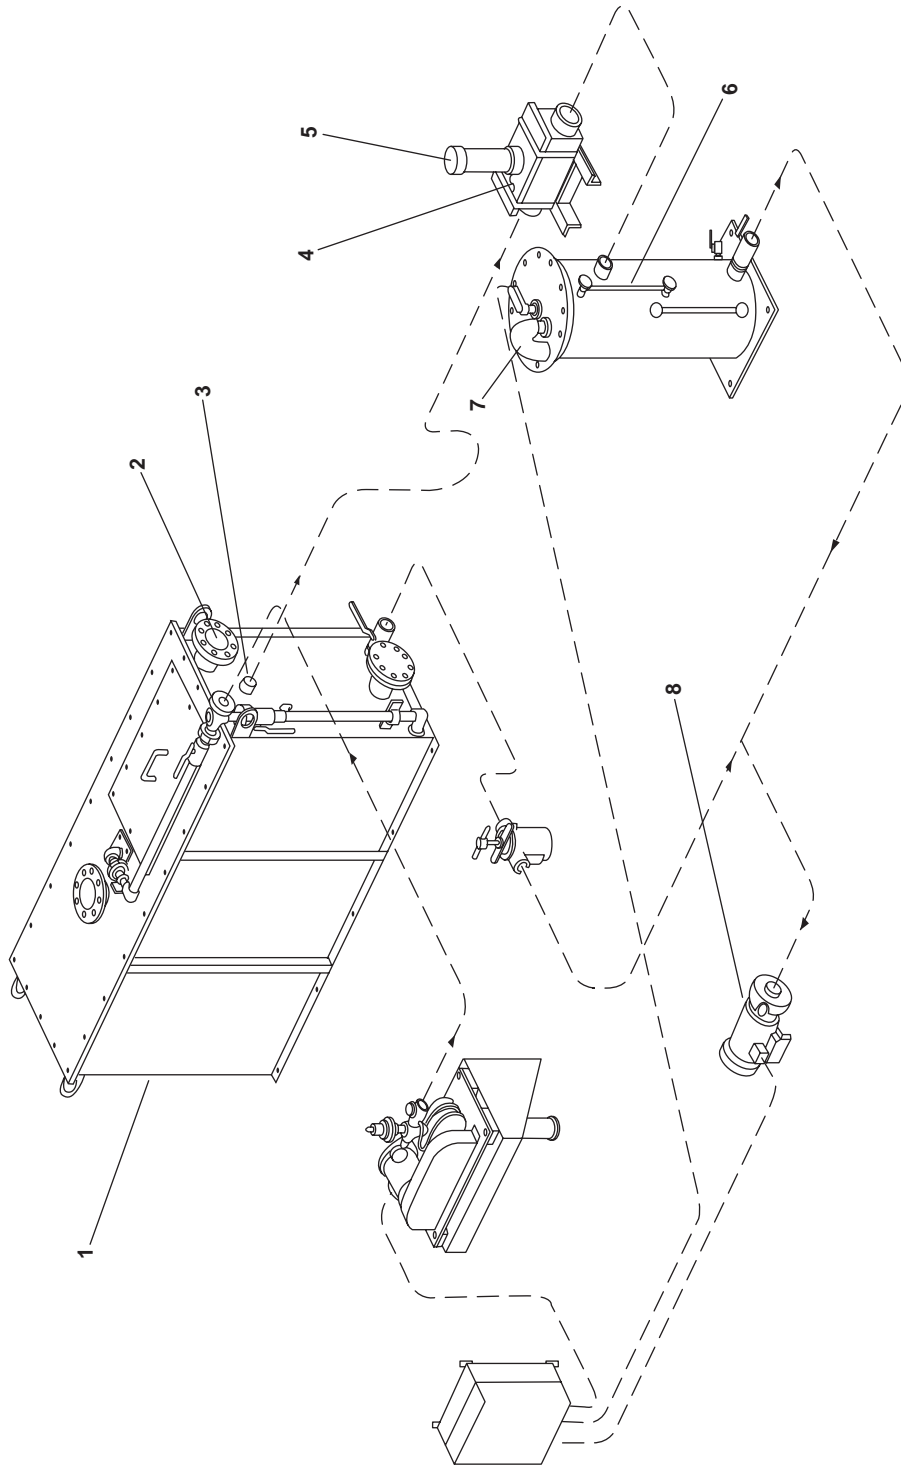

Figure 1. MSD Schematic
As the water passes through the tablet chlorinator (figure 1, item 4), calcium hypochlorite tablets are dissolved, releasing chlorine into the effluent. The amount of chlorine released is proportional to flow. A full feed tube (figure 1, item 5) holds 20 five-ounce tablets, equaling 6.25 lb (2.83 kg). Expected tablet consumption is determined by water usage. Leaking fixtures will greatly increase water usage and tablet consumption.
Clear and odorless water flows from the media tank (figure 1, item 1) through the spillover pipe (figure 1, item 3) and trap into the wet well (figure 1, item 6). The wet well is a retention tank sized for adequate disinfection time during peak flow periods. The wet well vent (figure 1, item 7) is open to the immediate environment. The disinfected water is discharged overboard by the discharge pump (figure 1, item 8).
The discharge pump (figure 1, item 8) handles the peak flows expected for the system. The pump assembly includes a pump, isolation valve, discharge pressure gauge, float switch for automatic operation, motor, and a motor starter. As the water level in the wet well rises, the "pump on" float switch automatically starts the discharge pump, which discharges the water overboard. When sufficient effluent is discharged from the wet well, the float switch stops the discharge pump.